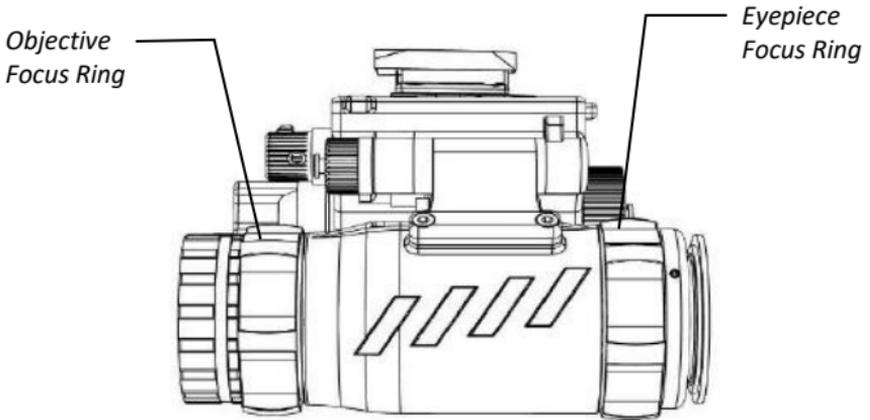

Figure 2-5. Objective Focus & Eyepiece Focus Ring
- (1) Turn both objective focus rings (see Figure 2-5) fully counter clockwise and then turn both eyepieces focus rings approximately to the centre of travel.
- (2) Cover your left eye or cup your hand over the left objective lens. Do not close your left eye. Be careful not to touch the lenses.
- (3) Look at a target that is 20 feet away indoors and 100-200 feet outdoors (a vision chart or high contrast object that has lettering or fine detail). Use the maximum distance possible to see the best detail.
- (4) Slowly turn the right objective focus ring *clockwise*. When you achieve the sharpest image, stop.
- (5) Turn the right eyepiece focus ring *counter clockwise* until the image blurs slightly. Now turn the eyepiece focus ring slowly clockwise until you first obtain a clear image, the stop.
- (6) Repeat steps (2) through (5) above for the left binocular.